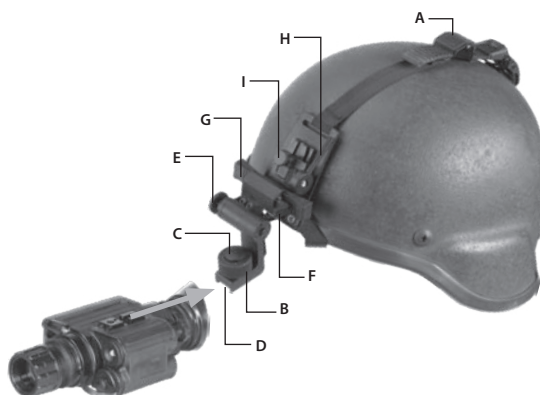

FIGURE 3-3. MOUNTING THE SPARK TO A HELMET
1. Attach the mount to the helmet as shown in Figure 3-3.
2. Adjust and tighten the straps (A).
3. Loosen the screw (B). With the button (C) pushed down, insert the Spark rail into the guide (D) of the helmet mount bracket. Tighten the screw (B).
5. Push the button (F) and move the unit along the slide-rail (G) until the most comfortable position is reached.
6. Adjust the mount for comfortable using. Loosen the screw (B) and move the unit along the guide (D) for eye relief adjustment. Turn the lever (H) and move the unit along vertical slide-rail until the most comfortable vertical position is reached.
7. The helmet mount has a flip-up mechanism. Push the button (E) of the mount bracket and lift the unit up until it reaches its top position.
8. Push the same button (E) to lower the Spark into the proper viewing position.